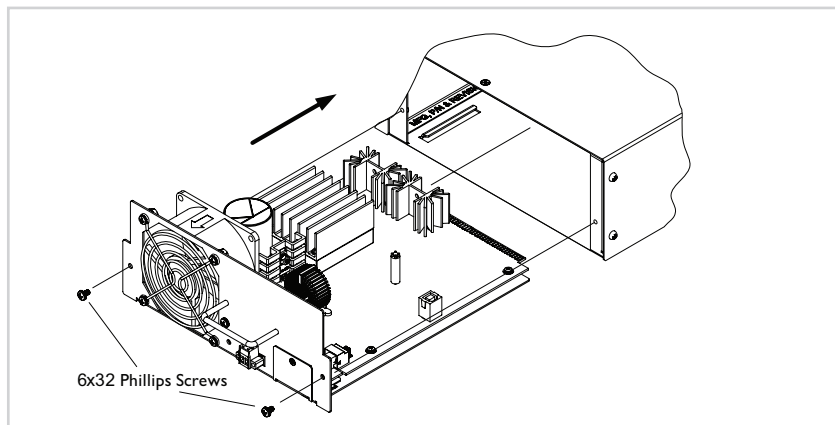

Figure 5: Power Module Installation
7. Slide the second power module into the chassis. See Figure 5.